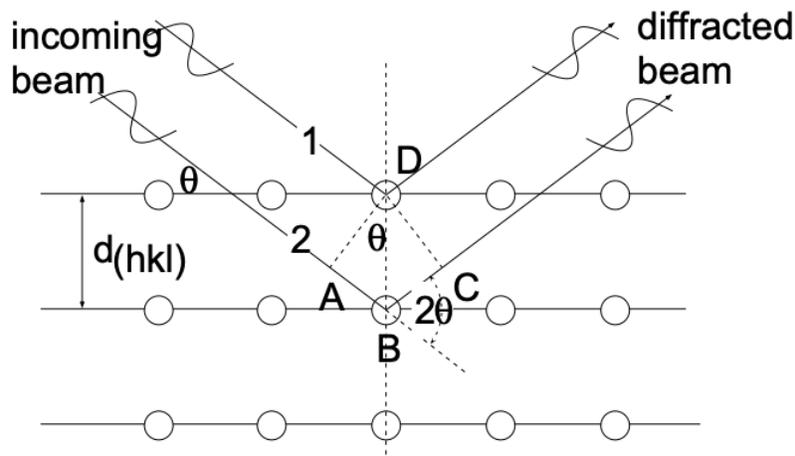
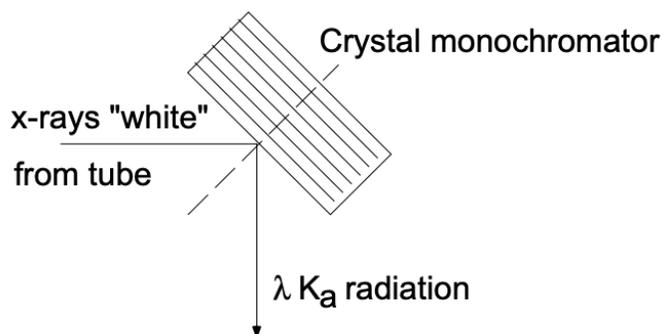
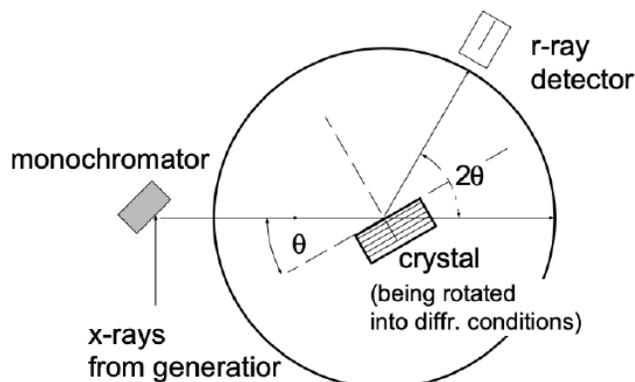

Figure 8 Bragg's law, assuming the planes of atoms behave as reflecting planes.
Figure 10 Isolation of monochromatic radiation from target radiation
Figure 11 X-ray Diffractometer setup.
The geometrical conditions which must be satisfied for diffraction to occur in a crystal were first established by Bragg. He considered a monochromatic (single wavelength) beam of X-rays with coherent radiation (X-rays of common wave front) to be incident on a crystal, as shown in fig. 8. Moreover, he established that the atoms which
For constructive interference of the scattered X-rays (the appearance of a diffraction peak) it is required that the beams, scattered on successive planes, be "in phase" (have again a common wave front) after they leave the surface of the crystal. In terms of the beams labeled 1 and 2 in fig. 8 this requires that the distance $\overline{AB} + \overline{BC}$ be equal to an integral number of wavelengths (λ) of the incident radiation. Accordingly:
If we consider fig. 8 as representative for a "diffractometer" set-up (fig. 11), we have a collimated beam of X-rays impinging on a (100) set of planes and at 2θ to the incident beam a detector which registers the intensity of radiation. For a glancing incident beam (small θ) the detector will register only background radiation. As θ increases to a value for which $2d \sin \theta = \lambda$, the detector will register high intensity radiation - we have a diffraction peak. From the above it is evident that the diffraction angle (θ) increases as the interplanar spacing, $d_{(hkl)}$, decreases.
(b) Fixed λ (Monochromatic X-Rays), Variable θ : The basic prerequisite for this approach is the availability of a monochromatic X-radiation of known wavelength (λ). Such radiation can be conveniently obtained by using a crystal (i.e., its diffracting property) as a filter or monochromator (fig. 10). Filter action is achieved by positioning the crystal in such a way that the unfiltered radiation emitted by the X-ray tube becomes incident at an angle, θ , on a set of low index planes which satisfy Bragg's law for the highest intensity radiation (K_{α}) emitted. The condition of a fixed λ and variable θ is experimentally used in two techniques. Using a **diffractometer** (fig. 11), we place a sample (ground to a powder) into the center of a rotating stage and expose it to a monochromatic X-ray beam. The sample is rotated into diffraction condition and the diffraction angle determined.